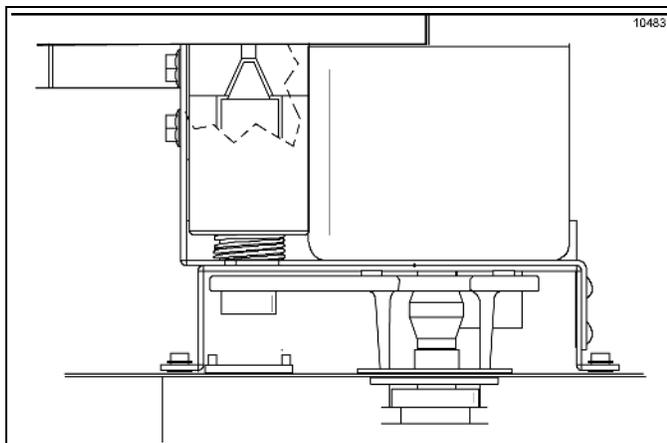

Figure 2-141
8. Lower the solenoid until the top of the plunger contacts the top surface (stopping point) inside the coil body. (See Figure 2-141.) Make sure the solenoid is aligned vertically and then retighten the two 7/16 in. nuts to secure the solenoid.